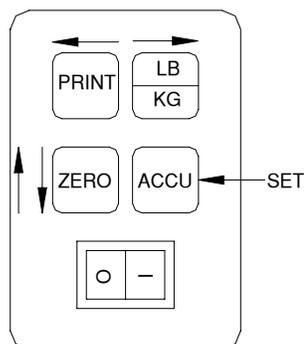

Figure 6-1: Setup Menu Key Assignments
3. Use the directional keys (shown in Figure 6-1 below) to adjust the displayed value to the actual test weight value. Increase the flashing digit by pressing the ZERO key. Pressing the PRINT key or the LB/KG key will change the position of the flashing digit.
2. The display will momentarily show "**CAL 0**", followed by a flashing zero. Use the directional keys (shown in Figure 6-1) to adjust the displayed value to the zero calibration value.
2. The display will momentarily show "**CAL 1**", followed by a flashing zero. Use the directional keys (shown in Figure 6-1) to adjust the displayed value to the span calibration value.